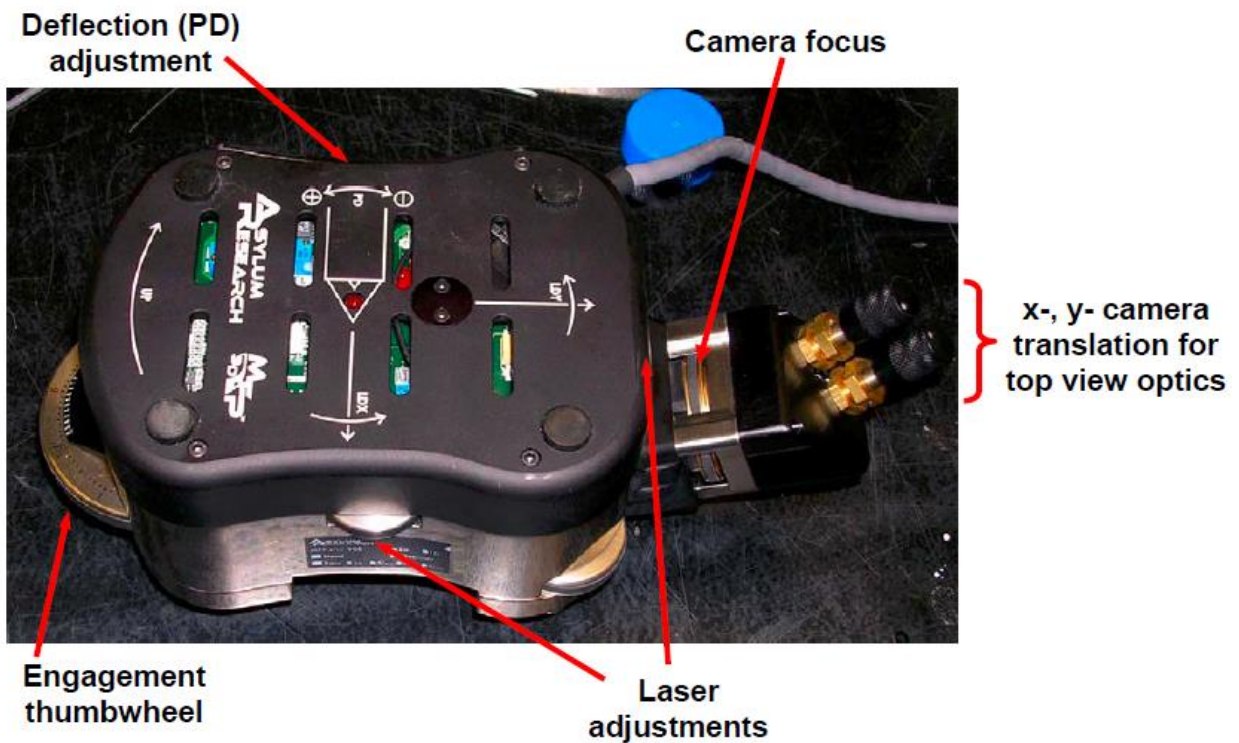

Figure 5: MFP-3D head and its thumbwheel locations (*top down view model shown*).
- 1.4 Adjust the two camera translation knobs at the back of the AFM head (Figure 5) to position the AFM cantilever probe in the middle of the video screen.
- 1.5 Focus the camera on the cantilever probe with the camera focus ring (Figure 5) at the back of the AFM head. Turn the ring clockwise to focus down and counter-clockwise to focus up.
- Use the thumbwheel on the left side of the head (Figure 5) to adjust the PD, whose value is seen in the Sum & Deflection meter (Figure 7).